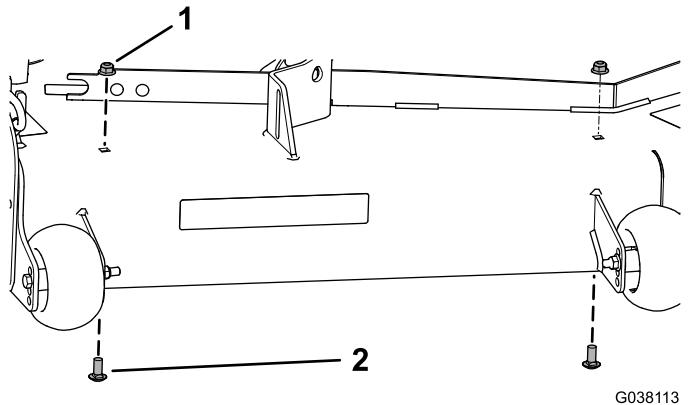

Figure 25
1. Remove the 2 existing flange nuts (3/8 inch) and 2 carriage bolts (3/8 x 7/8 inch) from the mower deck (Figure 25).